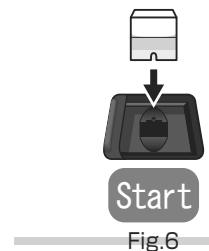

Fig.6
6. Set the Cell in the cell box again and press **[Start]**. (Fig.6)